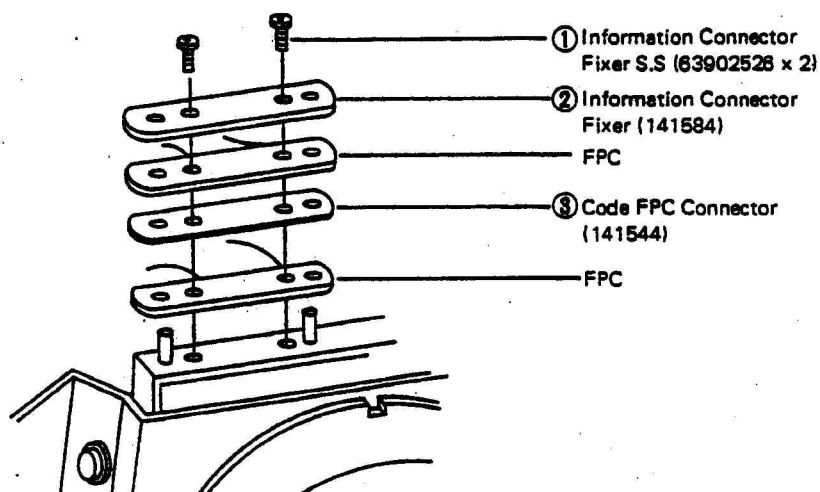

Fig. 59
- (1) When there is dirt between Condenser Lens and Focusing Screen, remove the Focusing Screen and clean the viewfinder through the Lens Mount.
- (2) When there is dirt between the Pentaprism and Condenser Lens, do the following procedure.
- c) Remove the respective parts ① ~ ③ shown in (fig. 59) in numerical order.